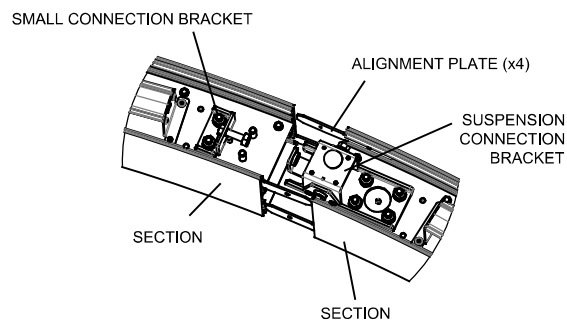

Fig. 2
2. Fasten sections together using the alligment plates and the connection brackets (Fig. 2). Please use the separate "RING-SQUIGGLE-MACRO - CONNECTION INSTRUCTIONS" for the connection details.